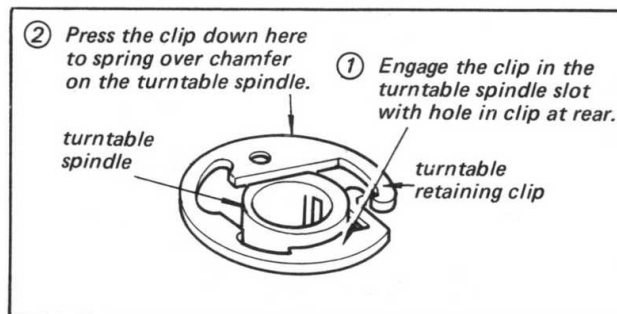

Fig. 1-8. Turntable retaining clip installation
**Note:** Refer to Fig. 1-8 for turntable retaining clip installation.